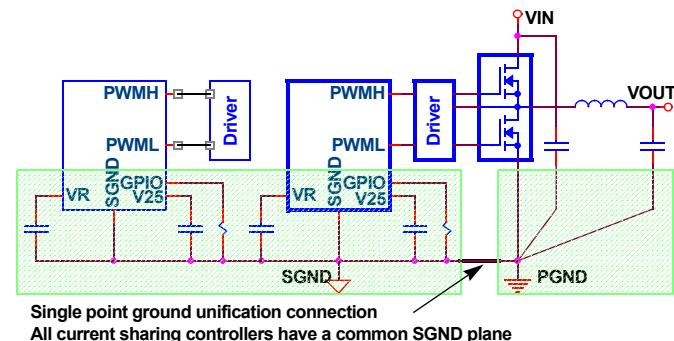

FIGURE 23. COMMON SGND PLANE FOR CURRENT SHARING
1. Create a common SGND plane Figure 23
2. Connect bypass caps and pinstrip resistors to SGND Figure 23